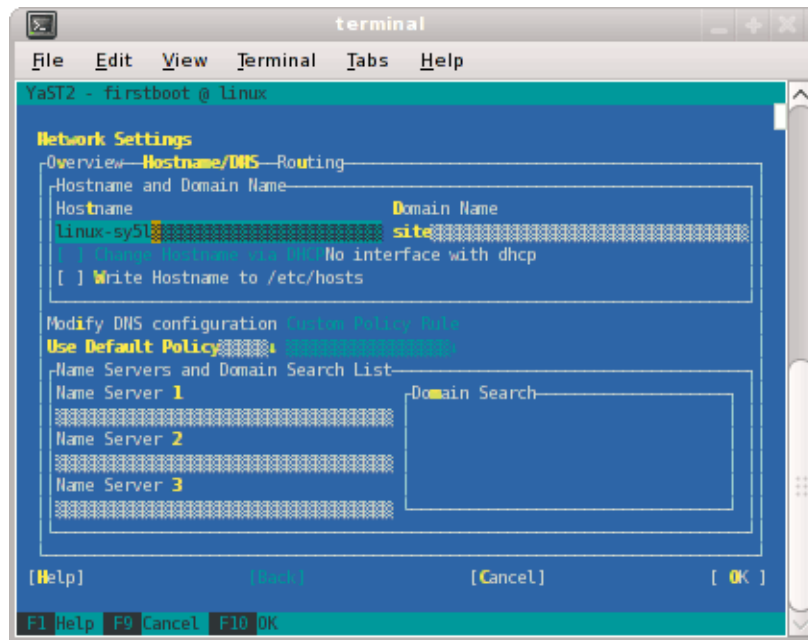

Figure 2-7 Network Settings Screen
10. At this point, you are back at the **Network Settings** screen as shown in Figure 2-7 on page 45. At this time, select **Hostname/DNS**. In this screen, you should enter your house/public network hostname and fully qualified domain names. In addition, any name servers for your house/public network should be supplied. Please select (ensure an x is in the box) for **Write hostname to /etc/hosts**. Do not select **OK** yet.